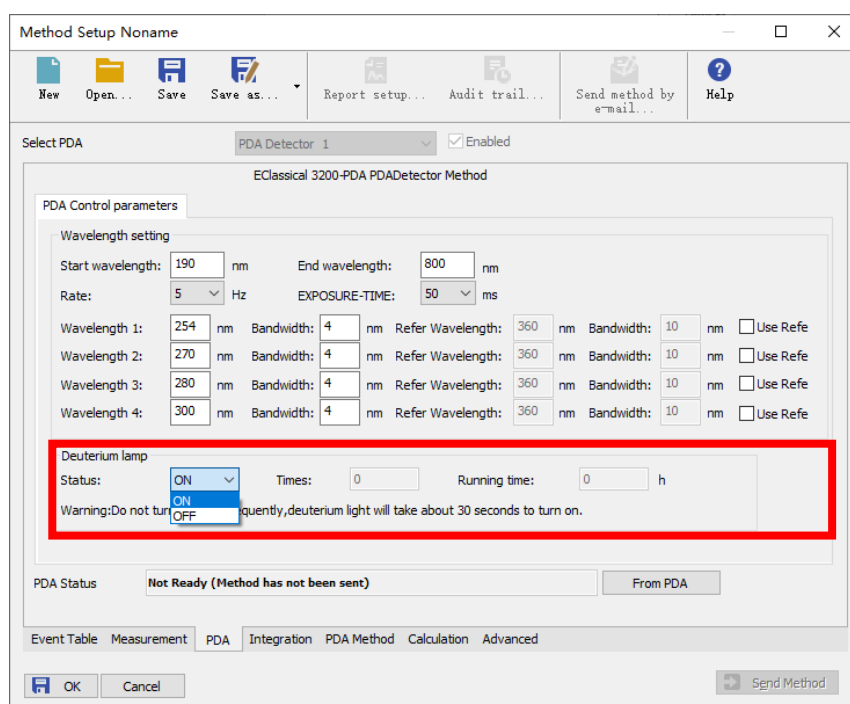

Fig. 3-9 Light source setup
- 2) In the method setup window, choose “PDA” tab, and set the status of both lamps (on or off), as the red frame marked in Figure 3-9.
As shown in Fig. 3-9, Sample rate of D3230 can be set as 2, 5, 10, 20, 40 Hz, However, that of D3240 can be set as 2, 5 Hz. The signal-to-noise ratio differs at different sample rate. Users select appropriate sample rate according to analytical demand.
As shown in Fig. 3-9, Exposure time of D3230 can be set as 25, 50, 100 ms. Exposure time is the interval between 2 readings for recharging current of an individual diode. The longer the exposure time is, the higher energy the detector obtained. Users select appropriate exposure time according to detection wavelength and wavelength range.
As shown in Fig. 3-9, detection and reference wavelengths of each channel can be set for D3230, respectively. Users can optimize the detector baseline performance by setting proper reference wavelength. It is important to ensure the sample doesn't absorb at the reference wavelength.